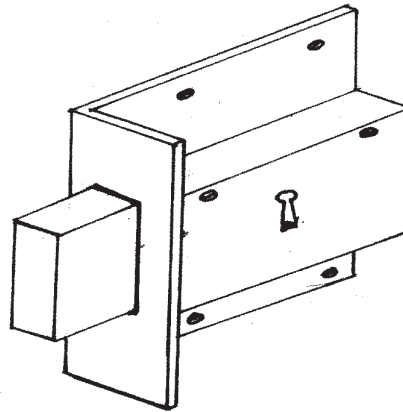

Figure 5
- (b) Figure 5 shows a cupboard lock: